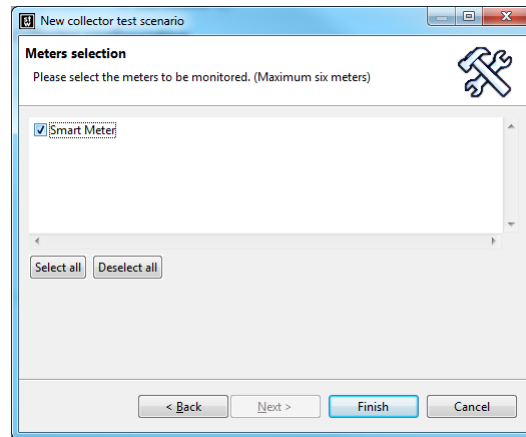

Figure 3.9: Select 'Smart Meter' meter
5. Press 'Next' and set the checkbox for the 'Smart Meter' meter. (refer to figure 3.9)